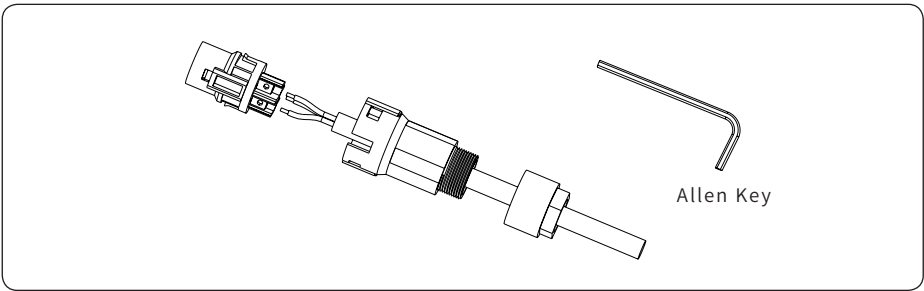

Figure 4-15
3) Insert the stripped end of each three wires into the appropriate hole of the terminal head (yellow green wire to PE port, red or brown wire to L port, and blue or black wire to the N port). Please try to pull out the cable to make sure it's well connected. As shown in Figure 4-15: